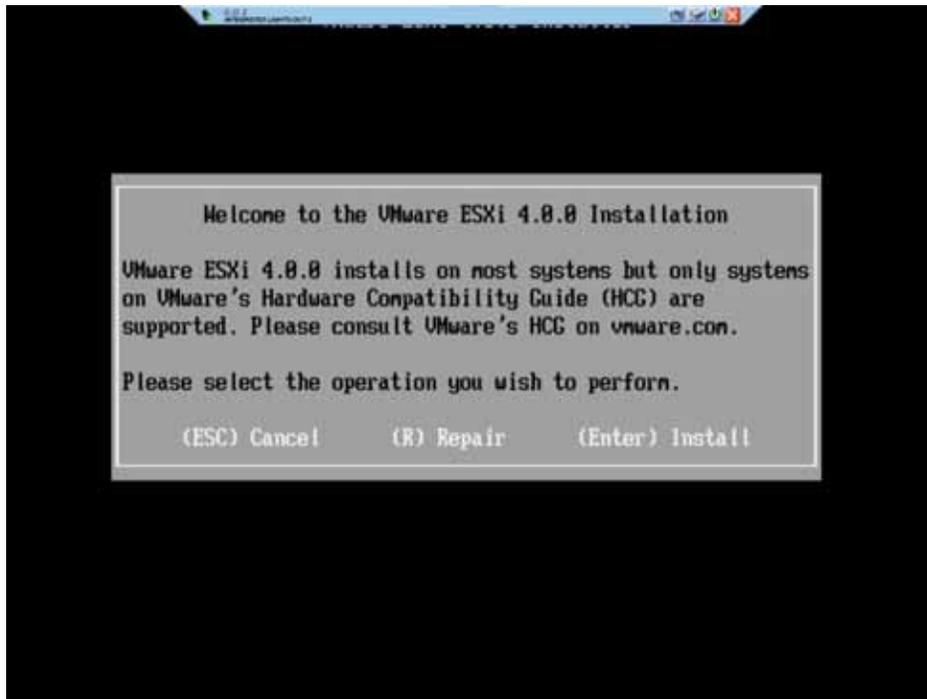

Figure 27 ESXi 4.1 Installer
- Step 4 Accept (or Decline) the license agreement as needed. To continue the installation procedure, accept the license agreement and start the ESXi 4.1 installer. Figure 27 on page 59 shows the ESXi 4.1 installer.